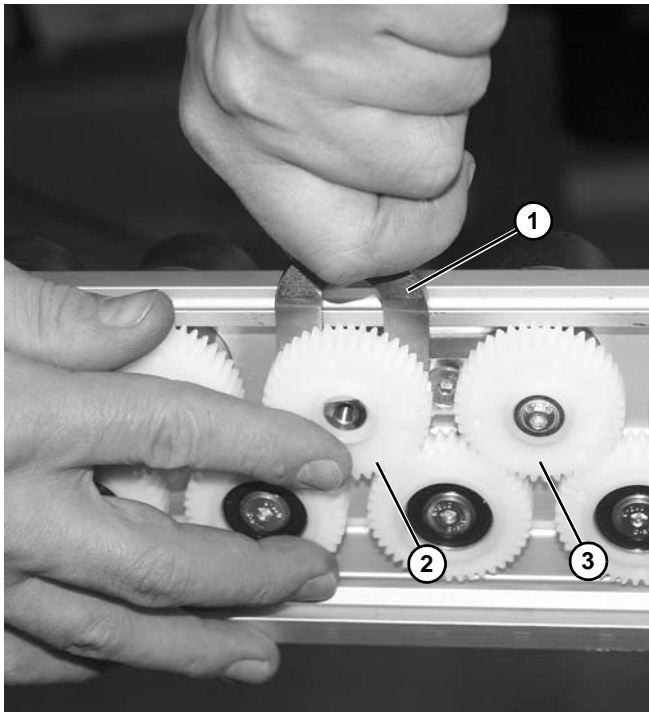

Figure 18
6. Install opposite end of sprocket removal tool, part number 400289 (Figure 18, item 1) to pry gear (Figure 18, item 2) from roller shaft.
7. Repeat for second gear (Figure 18, item 3).